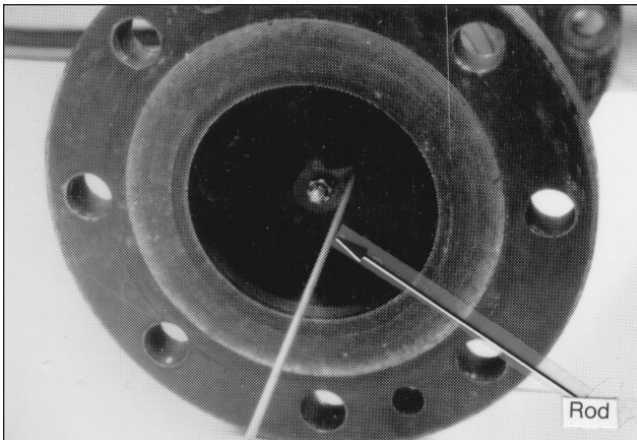

Figure 17
9. Position turbine meter on its upstream flange. Spin rotor with a rod, Figure 17, and visually observe if rotor spins free and returns to rest with smooth rotation. If any drag or friction is detected, this indicates upstream face of rotor O.D. is rubbing against O.D. face of deflector ring. This condition will affect meter linearity and may be corrected by repositioning rotor bearing in rotor. Repositioning is accomplished in accordance with procedures in Step 11, Page 5. This procedure can be repeated from the opposite side for a bidirectional turbine meter.